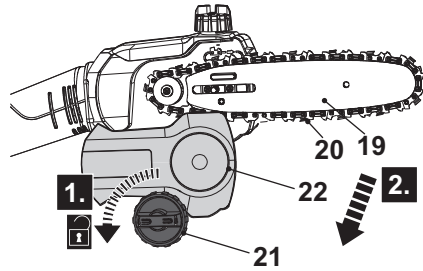
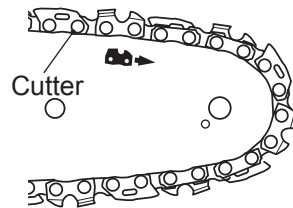

Fig. 5
Fig. 6
1. Place the product on a suitable flat surface with the chain saw cover (22) facing forwards.
2. Unscrew the locking wheel (21) anticlockwise and then remove it together with the chain saw cover (22), the guide bar (19) and the saw chain (20) (Fig. 5).
3. Use the new guide bar (19) and saw chain (20) with same types described in the “technical specification”.
4. Spread the saw chain (20) out with the cutting edges of the chain pointing in the direction of rotation. Slide the saw chain (20) into the groove around the guide bar (19). Ensure saw chain (20) is installed in correct direction of rotation (Fig. 6).